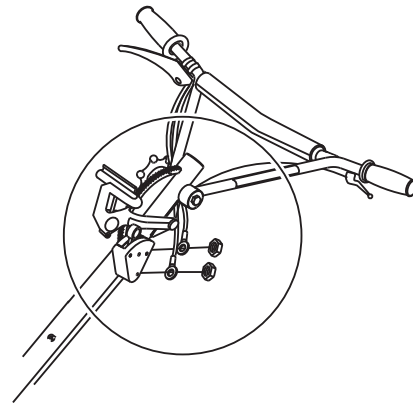

Figure 14. Wiring Connection
6. Connect the two wires from the Operator Presence Lever to the Safety Stop Switch terminal lugs. (one per lug; either position). Re-install and tighten the nuts. (Figure 14).